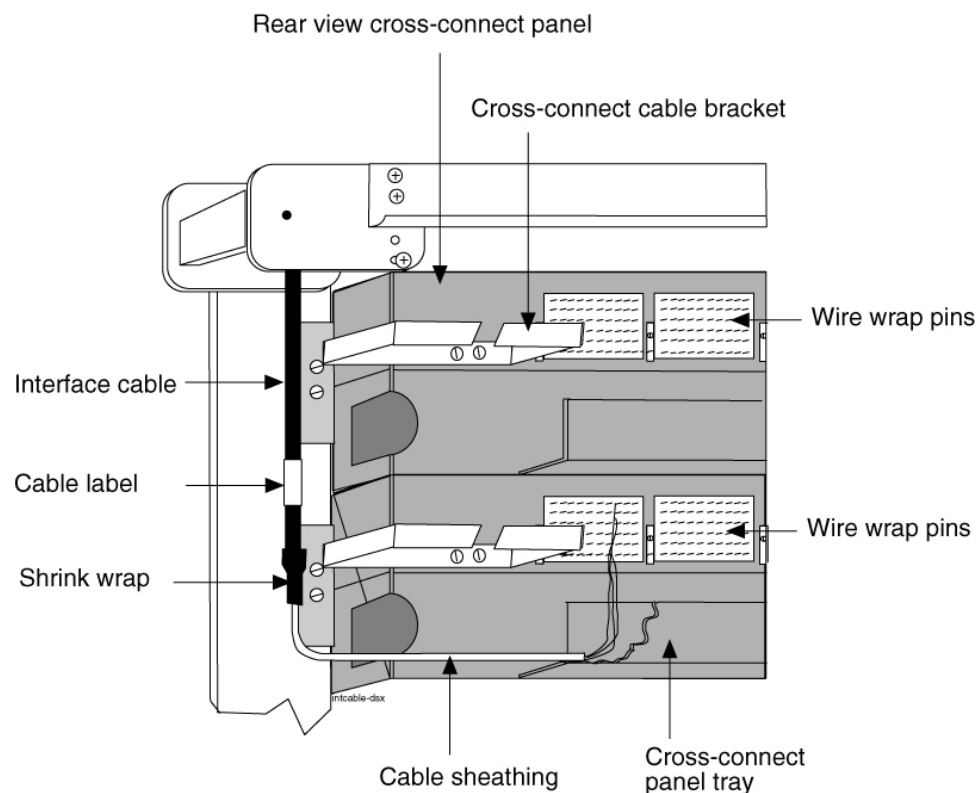

Figure 73: Interface Cable Cross-Connect Panel Connection
1. Remove the insulation from the cable where it is even with the bracket of the associated cross-connect panel as shown in Figure 73: Interface Cable Cross-Connect Panel Connection.